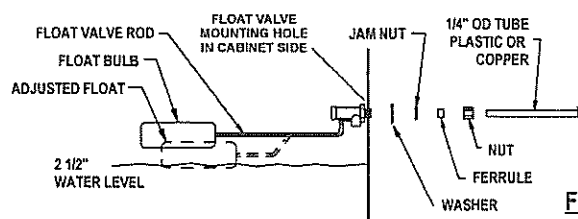

Fig. 3
- Install float valve in the cabinet as shown in Figure 3.